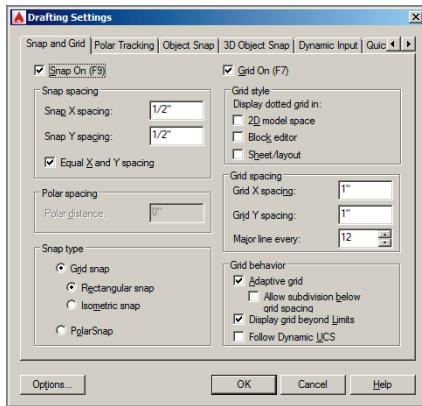

FIGURE 3.2 Setting up grid spacing and toggling on Snap
4. Type `DS`, and press Enter to open the Drafting Settings dialog box. Change Grid X spacing to 1" (or 10 for metric), and press Tab; Grid Y spacing updates with the same value. Set Major Line Every to 12 for Imperial (or 10 for metric) so that you'll see darker grid lines every foot. Notice that Snap spacing is set to 1/2" (or 10 mm) by default. Select Snap On, and verify that the Grid Snap and Rectangular Snap radio buttons are selected in the Snap Type area (see Figure 3.2). Click OK.
2. Select the PolarSnap radio button in the Drafting Settings dialog box. Type **1"** (or **10** for metric) in the Polar Distance text box (this dialog was shown back in Figure 3.2). Click OK.